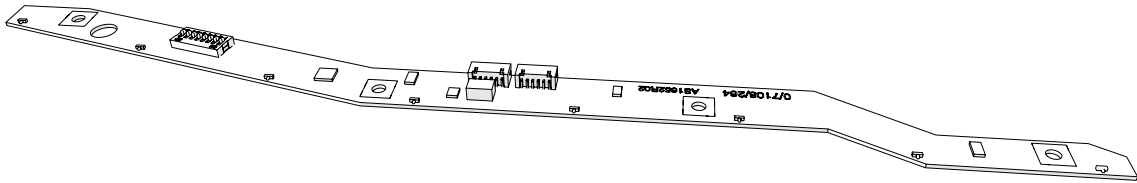
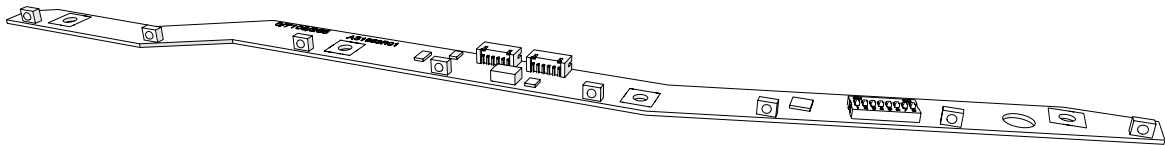

Fig. 44 - AS1652 transmitter
Fig. 45 - AS1653 receiver
The DIRAS cells are arranged in strips of eight (8) Transmitter (⇒ Fig. 42, page 43) and (⇒ Fig. 44, page 44) or Receiver (⇒ Fig. 43, page 43) and (⇒ Fig. 45, page 44) cells.